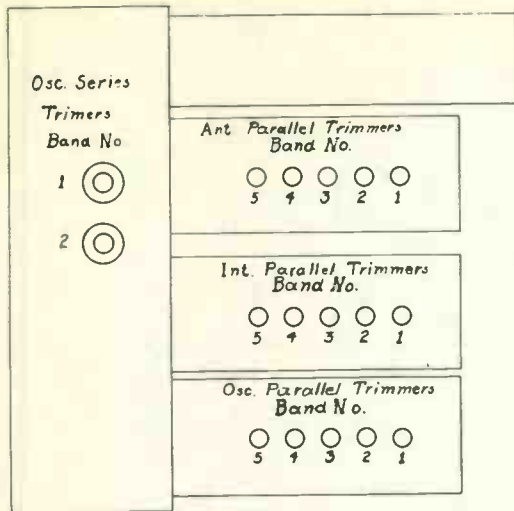

Fig 3 End View
- (c) (1) Set test oscillator at 600 Kc.
- (2) Tune station selector in the region of 60—Band No. 2—on dial for maximum reading on the output meter.
(3) Close the oscillator series trimmer condenser for Band No. 2, Fig. 3, 1/8 turn and re-tune station selector to 600 Kc. signal for maximum output, noting reading on output meter.
(4) If meter reads higher after operation (3) repeat the operation again and again until no further improvement in the reading of the output meter can be obtained. If meter reads lower after operation (3) open the oscillator series trimmer condenser 1/8 turn and re-tune station selector to 600 Kc. signal, noting reading on output meter as above and repeat as many times as necessary to obtain the highest meter reading. Do not reset the parallel trimmer condensers at this frequency.